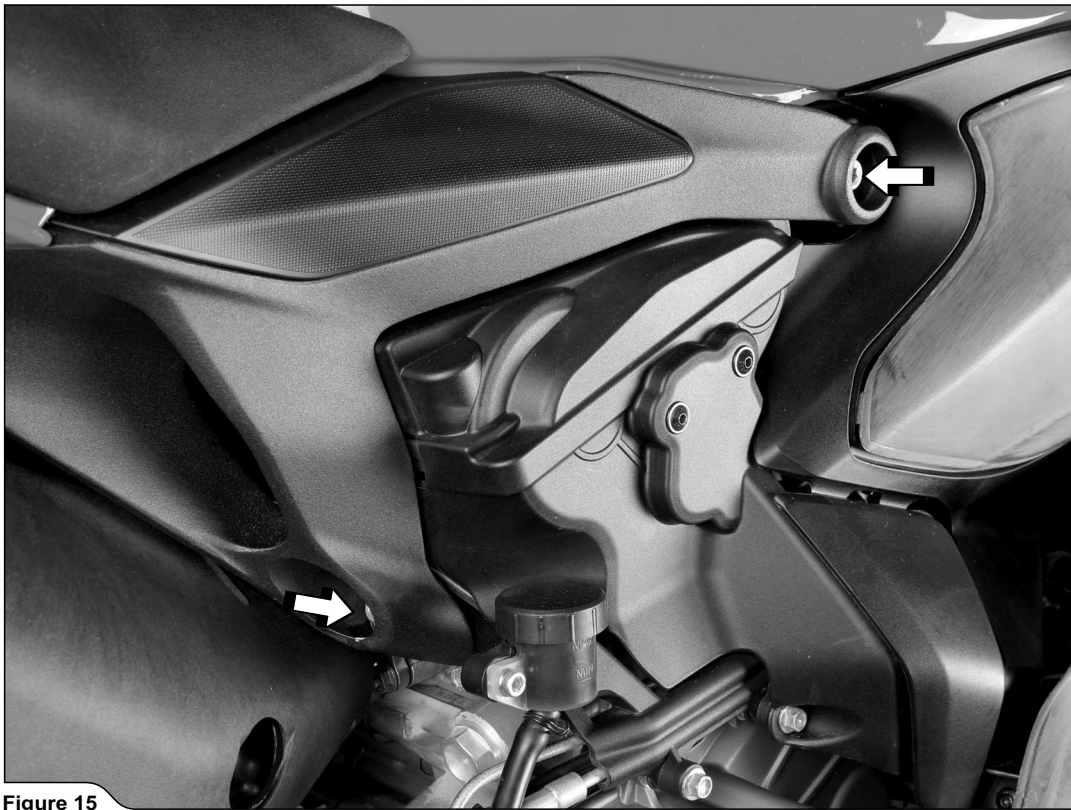

Figure 15
5. Remove the rider's seat and unscrew the marked sub frame bolts on both sides of the motorcycle (Figure 15).